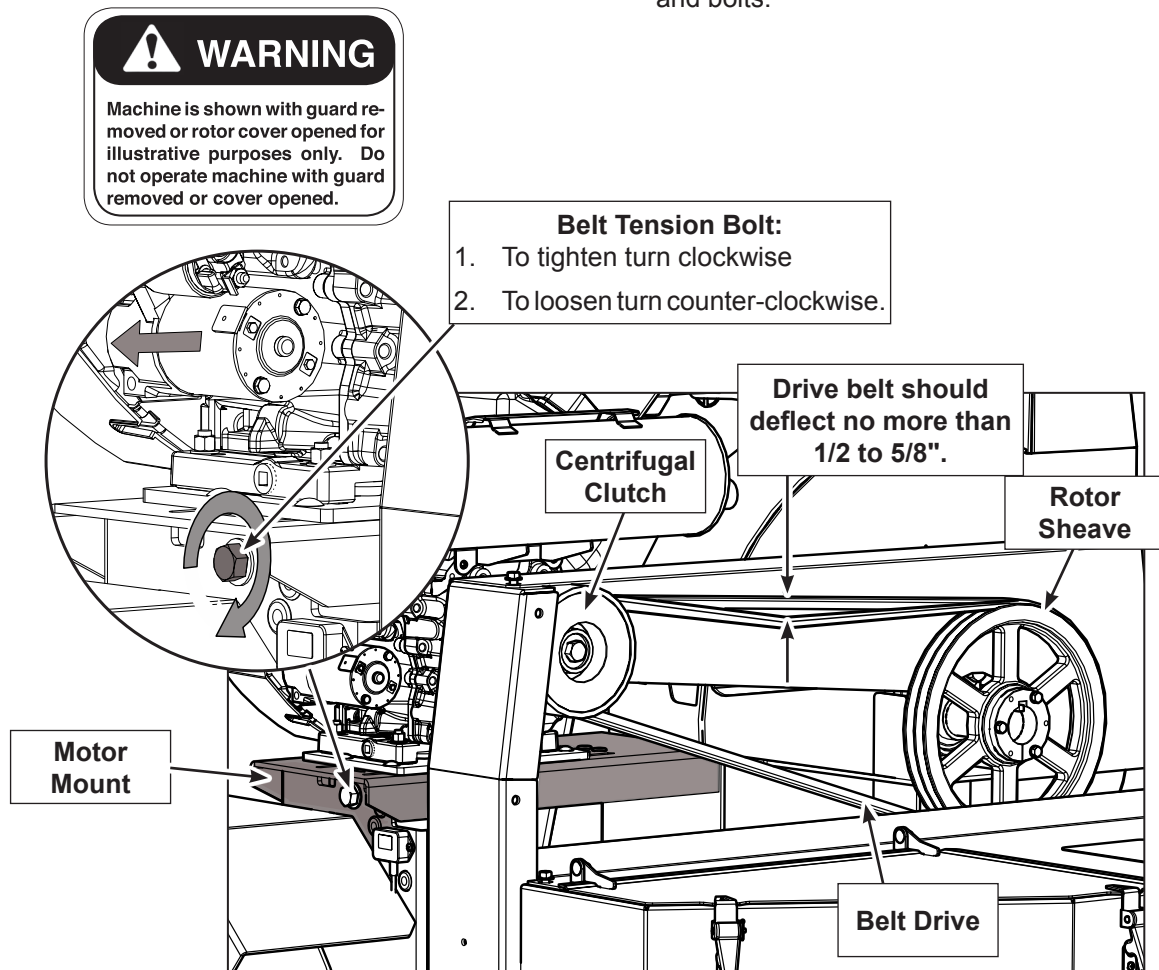

Fig. 24 BELT TENSION
4. Turn the belt tensioning bolt counter clockwise, until belt is loose enough to remove, then remove the belt (see figure 24)